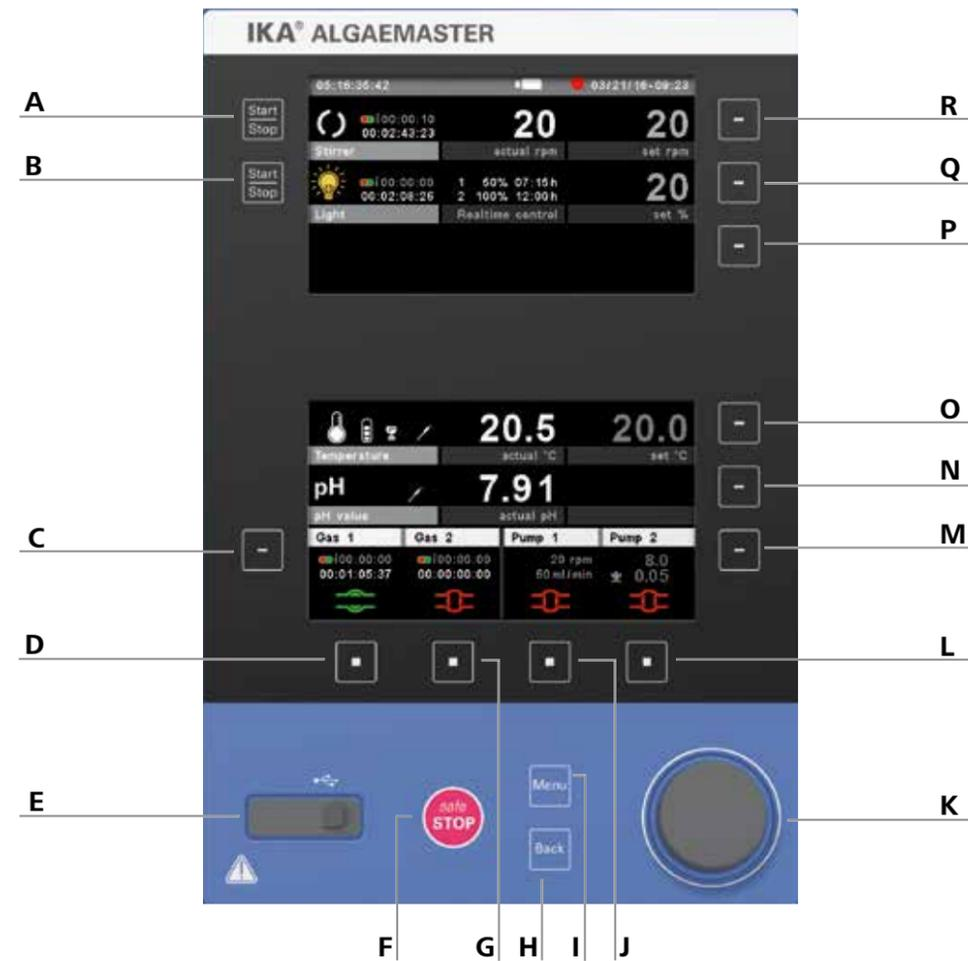

Fig. 8
In an emergency the stirrer (station) can be switched off by pressing the "safe/STOP" button (Fig. 8, (F)).
On the display, the active menu option is highlighted in blue. In an emergency the stirrer (station) can be switched off by pressing the "safe/STOP" button (Fig. 8, (F)).
- Press the "Menu" key (I).
- Select the menu by turning the rotating/pressing knob (K) to the right or left to select the desired menu or sub-menu, which can then be selected by pressing the rotating/pressing knob (K).
- Push or turn the rotating/pressing knob (K) again to select the desired menu option and edit the values or settings, or activate/deactivate a function.
- Turn the rotating/pressing knob (K) on "OK" or press the "Back" key (H) to end the procedure and return to previous menu or working screen.
Picture section Fig. 8.